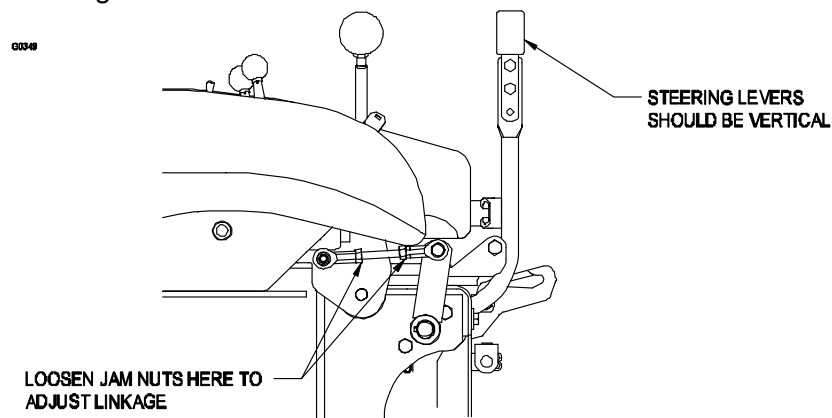

FIGURE 15
- Pull the speed control lever completely back to the neutral position. The two steering levers should be straight up and down (vertical). If necessary, adjust steering levers by changing the length of the link between the speed control lever and the control arm on the end of the steering control shaft. See Figure 15.